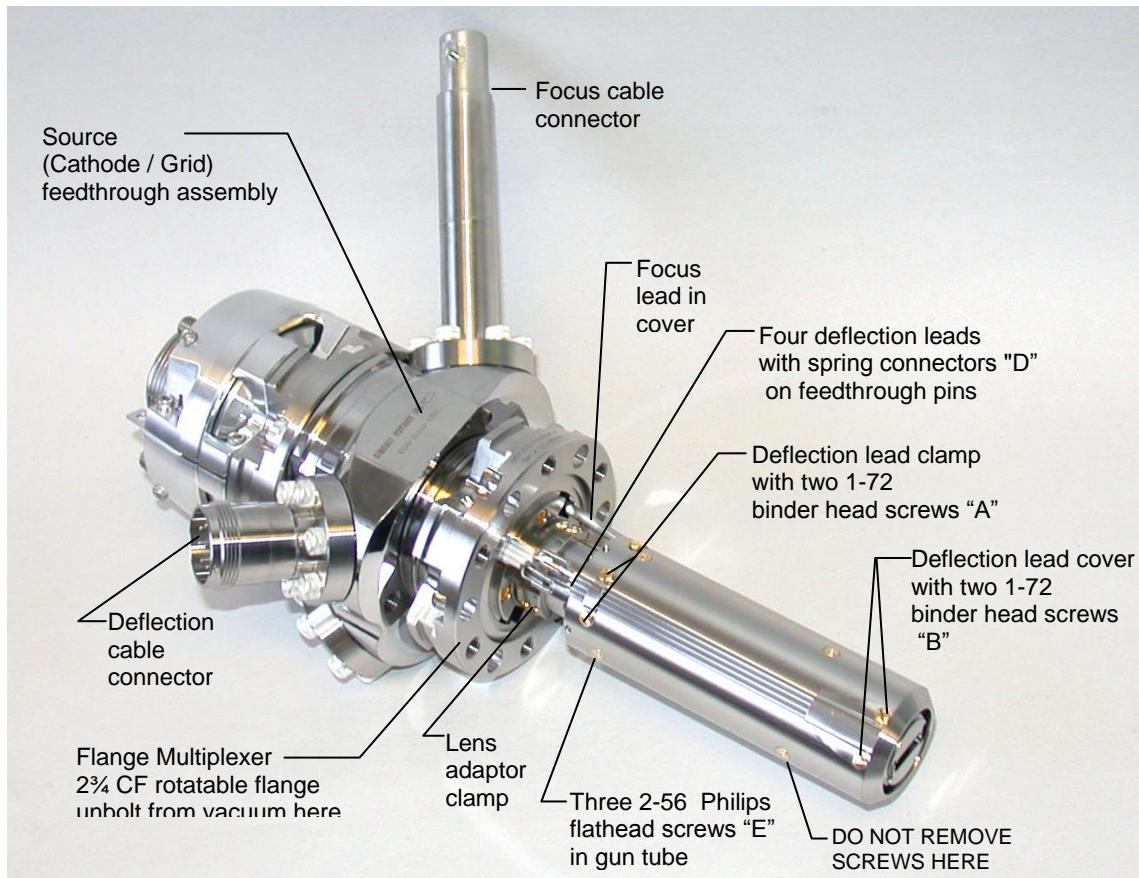

Fig. 6.6-2 EGG3101 before disassembly
- a. Using a straight blade screwdriver, remove the deflection lead cover and clamping strap by removing the two 1-72 binder head screws ("A" in Fig. 6.6-2) in the strap and two 1-72 binder head screws ("B" in Fig. 6.6-2) in the cover.
- a. Using a #1 Phillips screwdriver, remove the three 2-56 Phillips flat head screws ("E" in Fig. 6.6-2) in the gun tube nearer to the flange.
- b. Replace the three Phillips flat head screws ("E" in Fig. 6.6-2) in the gun tube. Do not overtighten the screws.
- d. Replace the deflection lead cover and strap and secure with their four 1-72 binder head screws ("A" and "B" in Fig. 6.6-2).